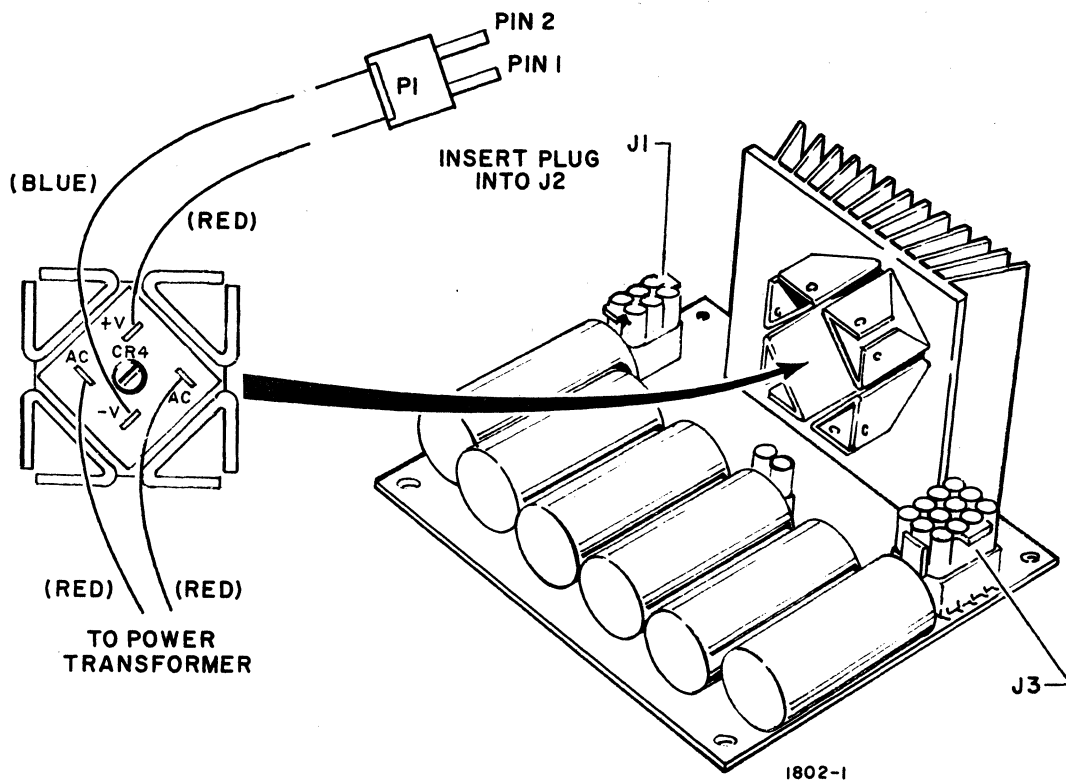

Figure CRT26. Bulk Power Supply Board
- 5) Disconnect J1 and J3 connectors (figure CRT26) from bulk power supply board.
- 10) Plug J1 and J3 connectors into sockets (figure CRT26).
- 12) Verify that +V (red) and -V (blue) wires are connected to J2 (figure CRT26).
- 4) Disconnect connector at J1 of bulk power supply (figure CRT26).